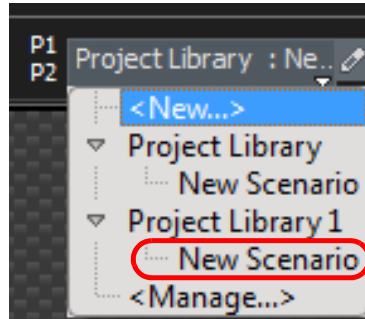

Figure 6.70: Project Library
- ❑ From the Project Library, click **File** → **Open** to open an existing File Library (Figure 6.70). The File Library displays all saved Scenarios in that library from which you can select a Scenario.